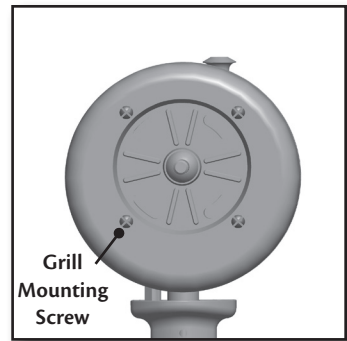

Figure 11
1. Remove the four grill mounting screws from the motor housing. Figure 11.